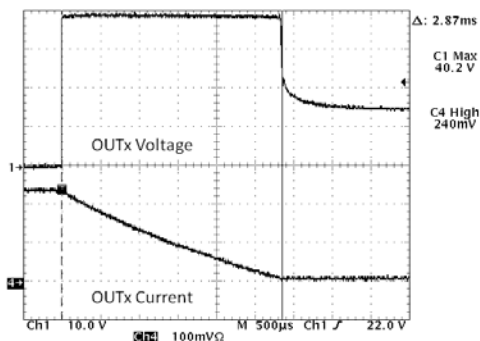

Figure 4. Repetitive Clamping Energy Test
- Testing particulars, 2M pulses,  $V_{bat} = 15$  V, 63 Ω, 390 mH,  $T_A = 25^\circ\text{C}$ . (See Figure 4)